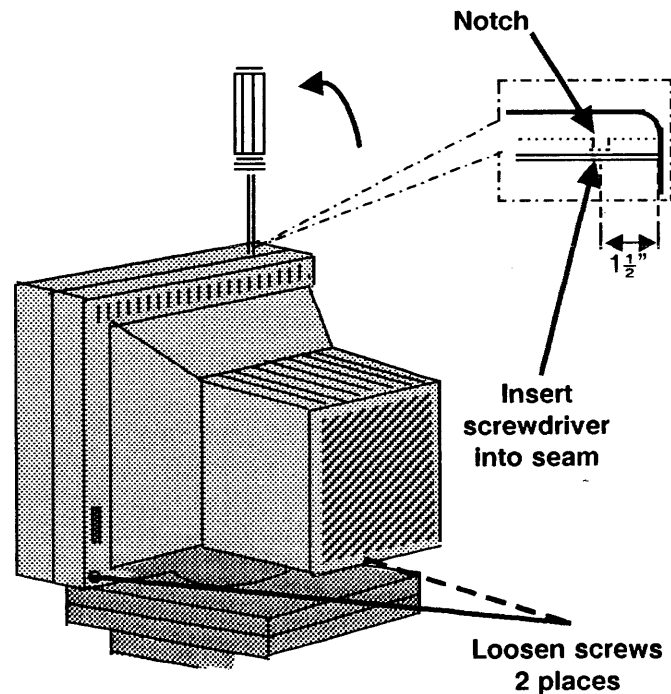

Figure 19. Removing the Display Cover
- b. Insert a slot screwdriver into the seam where the cover mates with the bezel, $1\frac{1}{2}$ inches in from the top right hand corner (Figure 19). Push the screwdriver toward the front of the CRT. When the screwdriver reaches a small cutout in the cover, lift the handle of the screwdriver to release the locking mechanism on the right side.